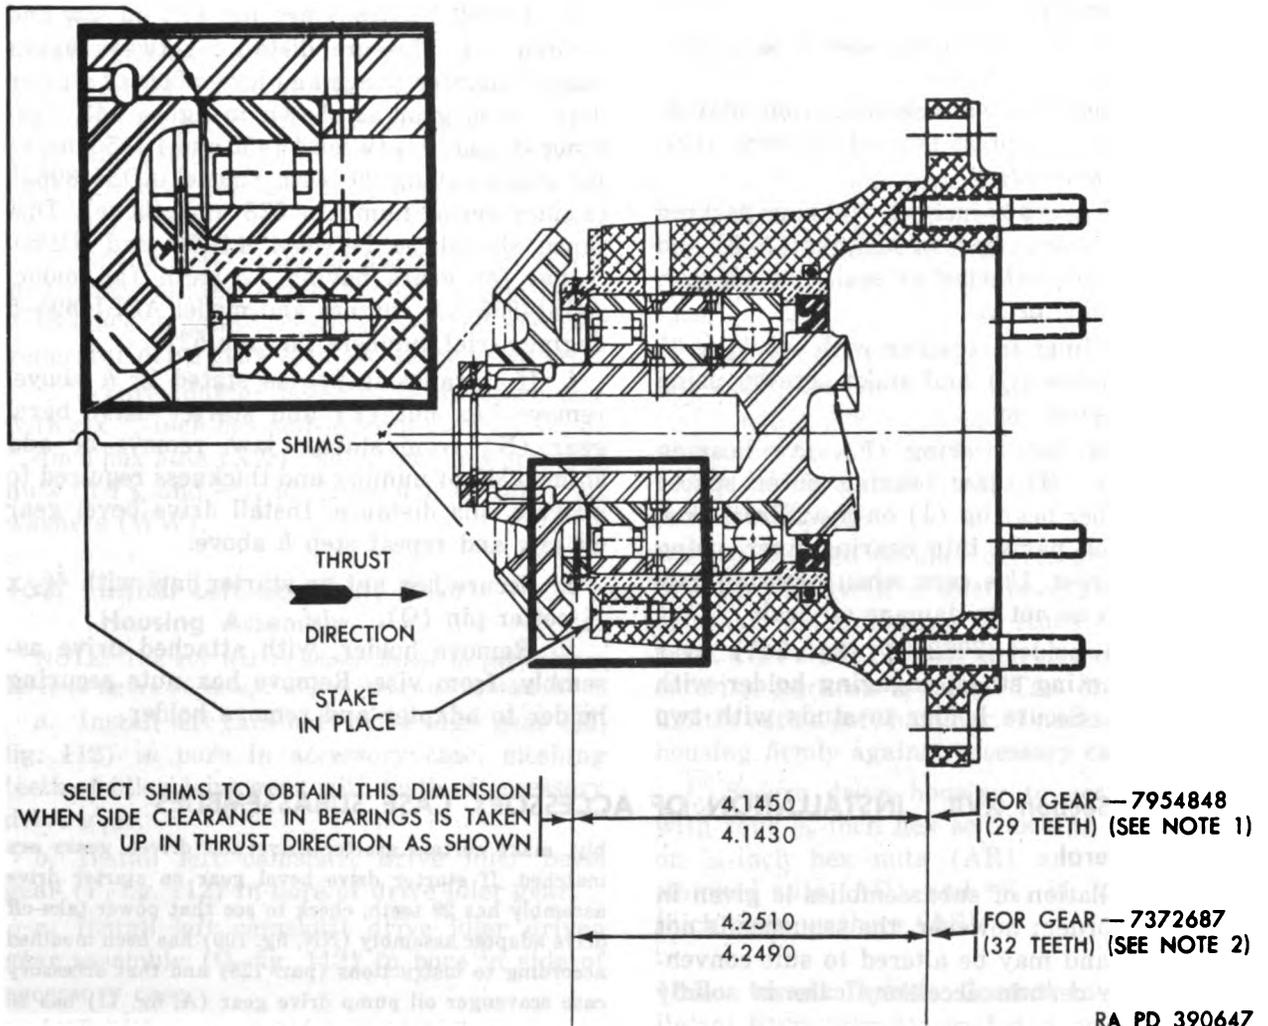

Figure 143. Determining shim thickness for starter drive bevel gear.
*h.* Install 1⅜-inch hex nut (P) on jaw and tighten nut. Measure distance between upper face of adapter flange and lower face of starter drive bevel gear as shown in figure 143. Distance should be between 4.1430 and 4.1450 inches for gears having 29 teeth (model AOSI-895-5 engines serial numbers 528 and above). Distance should be between 4.2490 and 4.2510 inches for gears having 32 teeth (all model AOSI-895-5M engines and model AOSI-895-5 engine serial numbers through 527).
*i.* If distance is not as stated in *h* above, remove hex nut (P) and starter drive bevel gear (N) from starter jaw, remove or add shims (M) of number and thickness required to provide this distance. Install drive bevel gear on jaw and repeat step *h* above.
*j.* Secure hex nut on starter jaw with ⅜ x ½ cotter pin (Q).